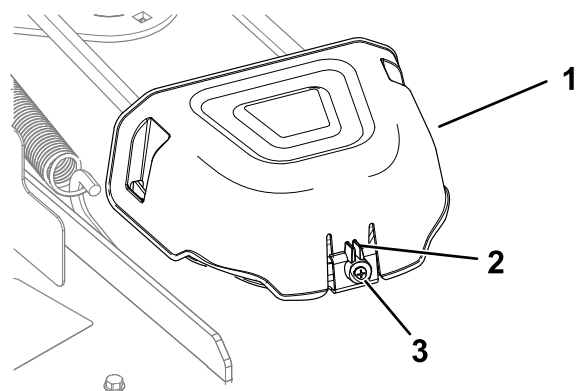

Figure 55
5. Loosen the screw and push in the tab on the cover to remove the pulley covers (Figure 55).